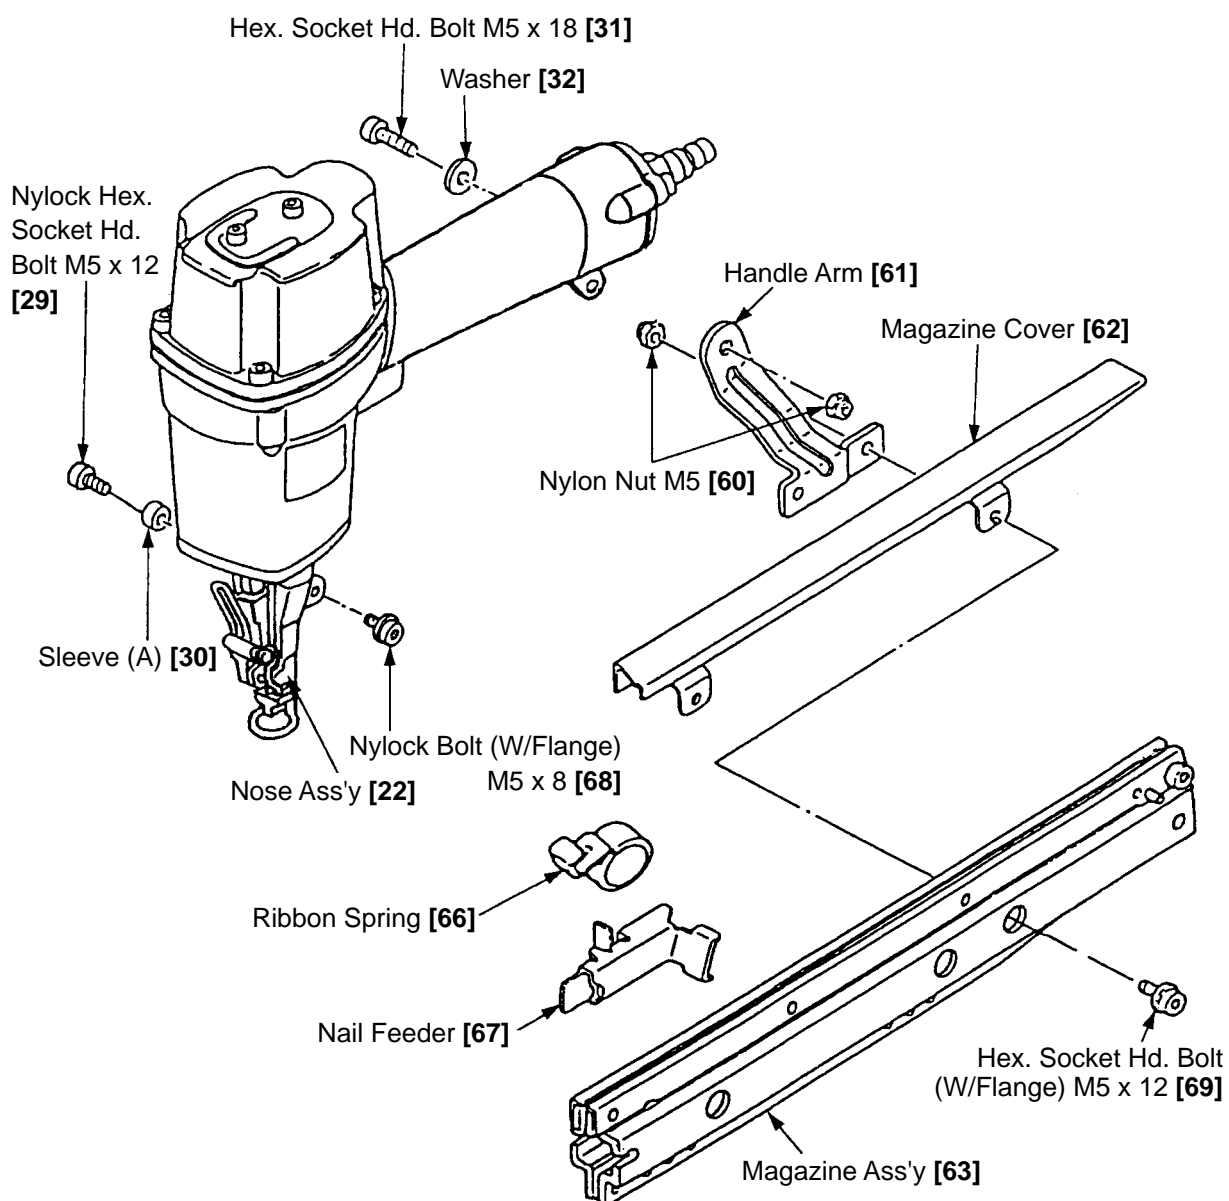
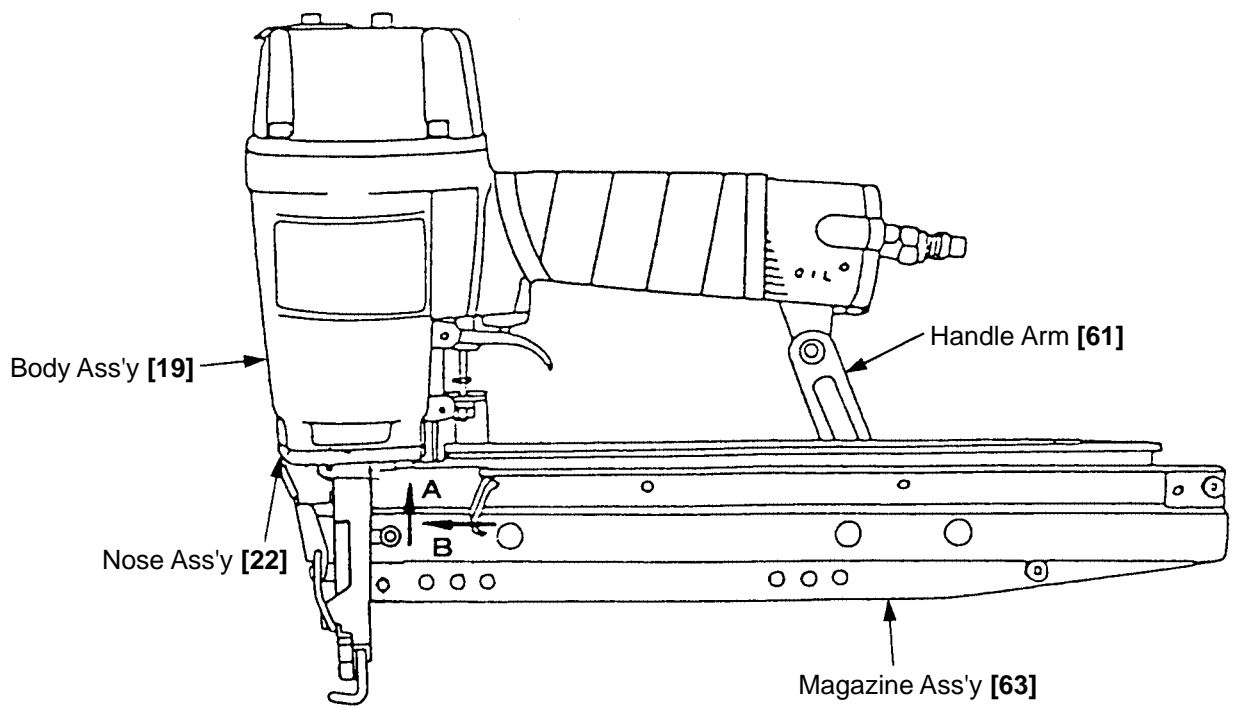

Fig. 21
Fig. 22
(a) Disassembly (Refer to Fig. 21.)
(b) Reassembly (Refer to Figs. 21, 22 and 23.)
- Tighten the Nylock Bolt (W/Flange) M5 x 8 [68] and the Nylock Hex. Socket Hd. Bolt M5 x 12 [29] for mounting the Magazine Ass'y [63] and the Nose Ass'y [22] while pressing the Magazine Ass'y [63] against the Nose Ass'y [22] and Body Ass'y [19]. (Press the Magazine Ass'y [63] in "A" and "B" directions as shown in Fig. 21. Check that there is no space between the Nose Ass'y [22] and the Magazine Ass'y [63] as shown in Fig. 22.)